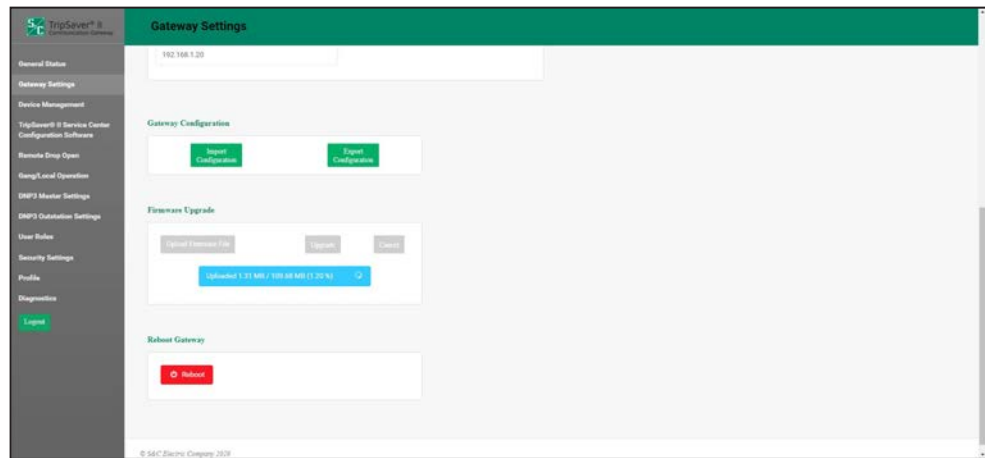

Figure 28. The Firmware Upload progress bar.
**STEP 4.** The file uploads to the communications gateway. After the upload completes, the gateway will confirm a successful upload. See Figures 28 and 29.